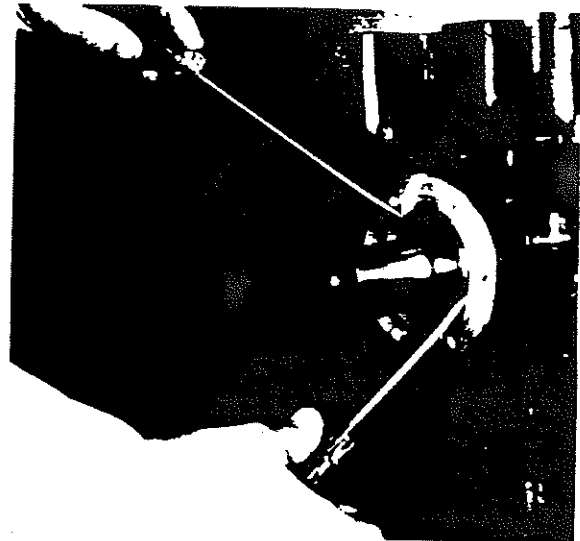

Figure 3-9. Shaft Seal Removal
- b. Tap seal end of crankshaft to loosen seal grip on shaft. Using two long screwdrivers, pry out the shaft seal. (See figure 3-9.)